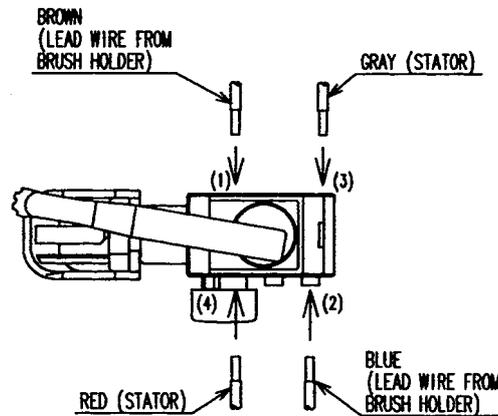

Fig. 10 Wiring of reversing switch
(1) Wiring of reversing switch
Insert the lead wire (brown) coming from the brush holder into the terminal (1) of the reversing switch, and the lead wire (blue) into the terminal (2) as shown in Fig. 10. Insert the lead wire (gray) coming from the stator into the terminal (3) and the lead wire (red) into the terminal (4). After insertion, pull each lead wire slightly to check that the lead wires do not come off. To disconnect the lead wires, insert a small flat-blade screwdriver into the slots near the terminals and pull out the lead wires.